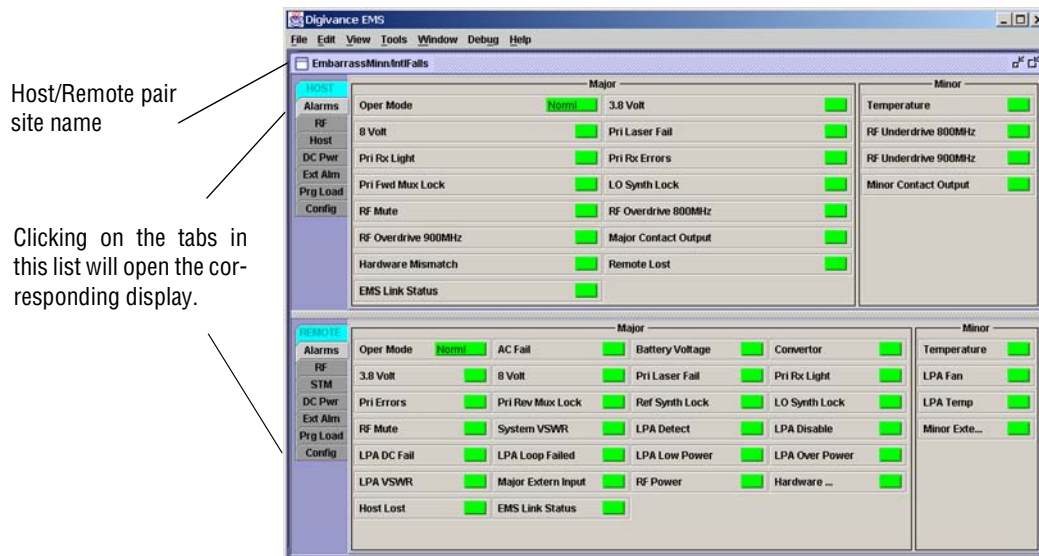

Figure 3-2. Typical Host and Remote Alarms Display
10. Open the **View** drop down menu and connect to the Host and Remote pair by selecting the "NotNamed/NotNamed" Host/Remote pair. The **HOST Alarms** display and the **REMOTE Alarms** display will open within the main window as shown in Figure 3-2.
12. Click on the **HOST Config** tab and on the **REMOTE Config** tab (see Figure 3-2). The **HOST Config** display and the **REMOTE Config** display will open within the main window.
16. Click on the **HOST RF** tab (see Figure 3-2). The **HOST RF** display will open within the main window.
19. Click on the **REMOTE RF** tab (see Figure 3-2). The **REMOTE RF** display will open within the main window.
21. Click on the **HOST RF** tab (see Figure 3-2). The **HOST RF** display will open within the main window.